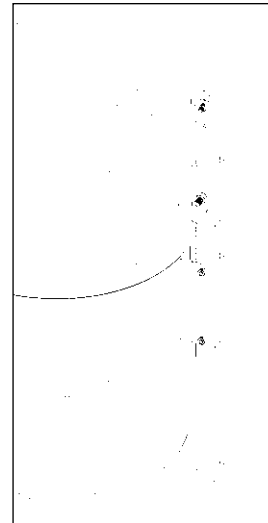

Figure 2.1
- The **Bracket Assembly** (Part # 4556SS-P) is **required** to handle a plastic drum without a top rim (see figure 2.1). It is also recommended to more securely handle a fiber drum. You can use the Bracket Assembly with a 55-gallon (208 liter) plastic, steel or fiber drum. The brace at top and bottom of the drum prevent it from slipping lengthways through the drum holder. It adjusts for a drum 31" to 39" (79 to 99 cm) tall.